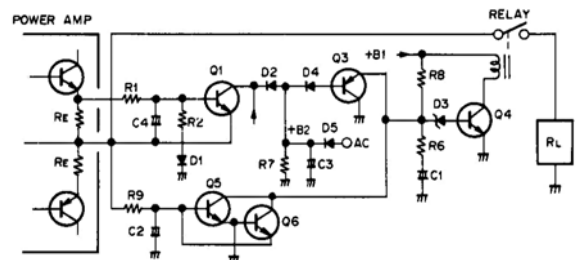

Fig. 4-23 Protection Circuit
With reference to Fig. 4-23 when the power supply is turned on, Q3 remains off due to +B2 (The time constant of the +B2 circuit is very small). If there is no input (DC) on Q5 and Q6, they will